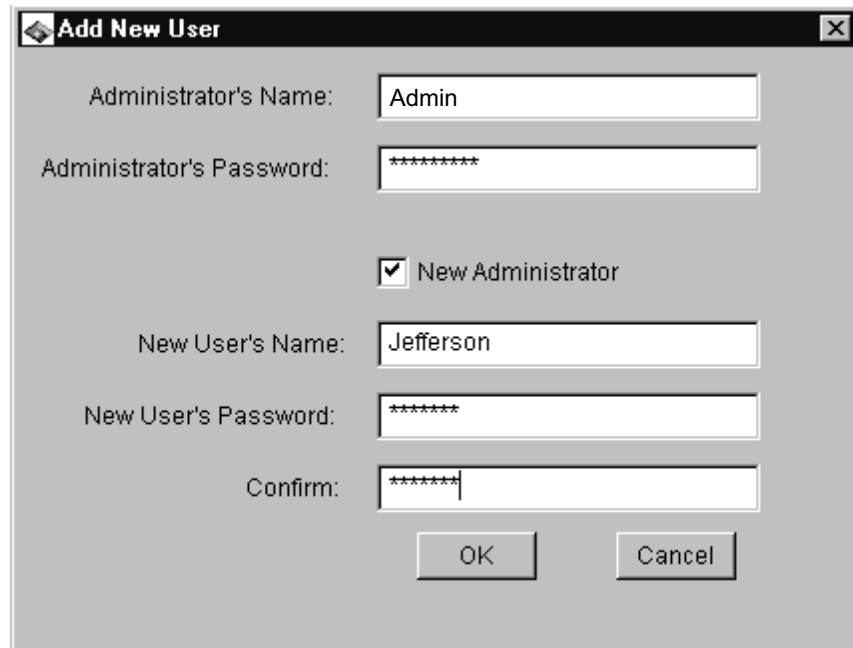

Figure 10. Creating a New Administrator Account
5. Add a new user account with administrative privileges. See Figure 10 on page 31.
To add a new administrator account, click **Admin —> Add User**. Type in the information in all the fields of the Add New User pop-up window (see Figure 10). After you add a new administrator account, the **StorWatch Specialist** account is deactivated.